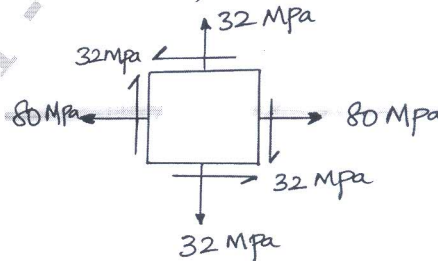

Fig Q3(b)
- b. At a certain point in a strained material the values of normal stresses across two planes at right angle to each other are 80MPa and 32MPa both tensile and there is a shear stress of 32MPa clockwise on the plane carrying 80MPa stresses across the planes as shown in Fig Q3(b). Determine :